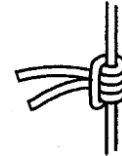

fig. 5
- Step 4 Tighten the knot around the line as shown in (fig. 5).